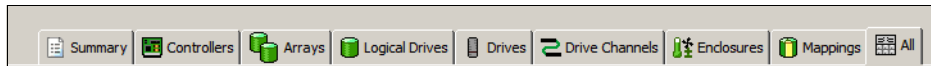

Figure 14-16 The tab bar of the Profile window with the All tab selected
2. Select the tab for the information you want to view. By default, it opens the **Summary** tab. Select a specific component or click the **All** tab to show everything as in Figure 14-16.